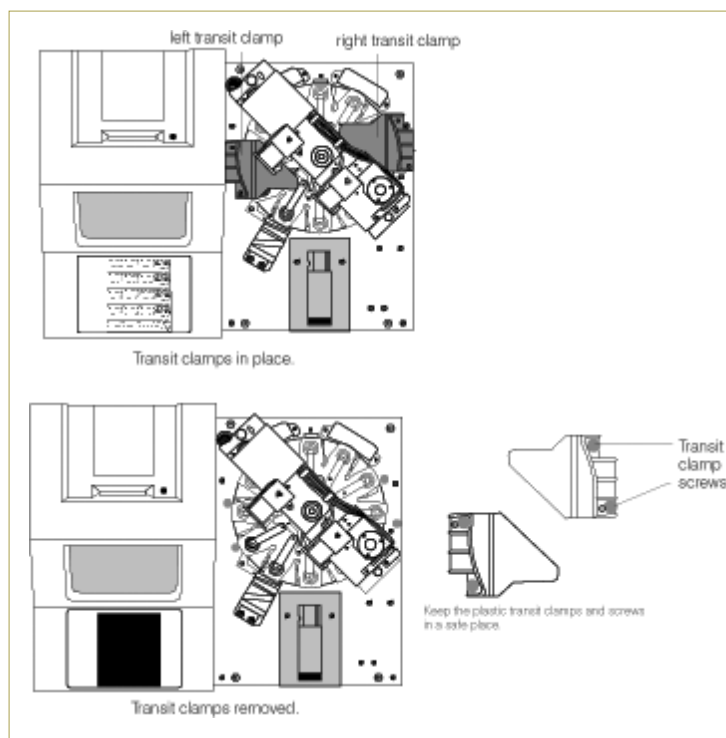

Figure B-4: Top views of the VetTest analyzer with transit clamps in place and the transit clamps removed
3. Locate the two transit clamps (Figure B-4). Then, using a Phillip's screwdriver, remove the **two screws** in each transit clamp.